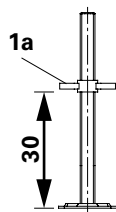

Fig. A2.02
4. Adjust the Base Frame to the required level by turning the Quick Jack Nuts (**1a/1b/1c**) on the Base Spindles. (Fig. A2.02/A2.03/A2.04)
- Base Spindle UJB 38-50/30 with red Quick Jack Nut (1a) = max. 30 cm. (Fig. A2.02),